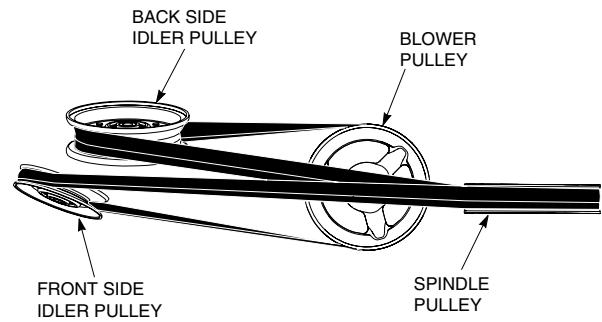

Figure 2-9. Belt Routing
15. Install the belt to the spindle pulley. When replacing the belt. See Figure 2-9 for belt routing.